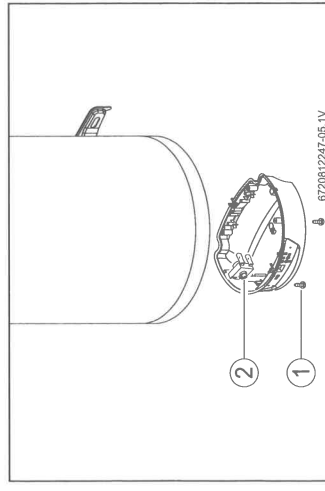

Fig. 14 Re-start button
- ▶ Unscrew and remove the appliance lid (Fig. 14, [1]).
- ▶ Press the button firmly (Fig. 14, [2]).